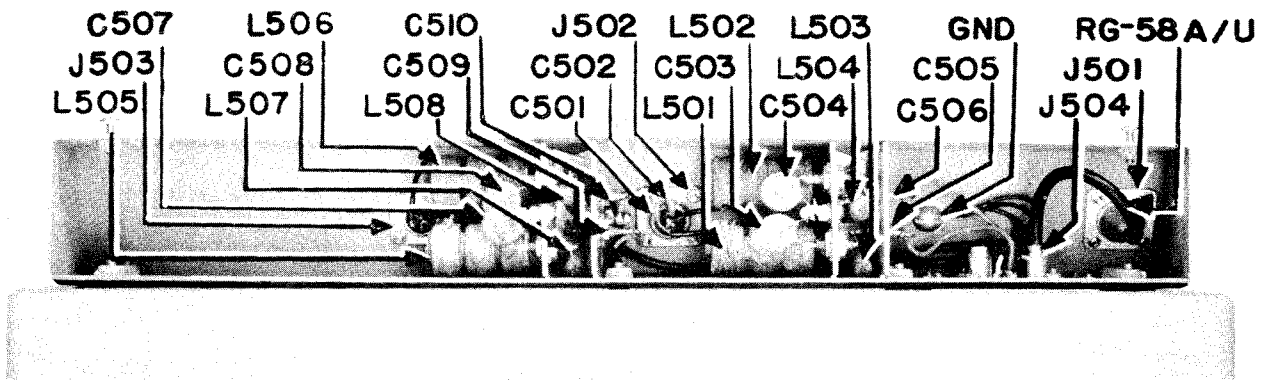

Figure 1-11. Rear Compartment Assembly, Top View
g. REAR COMPARTMENT ASSEMBLY.—This unit, as illustrated in figure 1-11, is permanently mounted to the rear of the receiver case. To obtain access to this compartment, loosen the three Phillips type screws at the rear, and lift off the compartment cover. This unit contains RF filters used in the audio and AC lines; and the antenna transmission line. The bottom of the compartment mounts 3 receptacles to which all external connections are made.